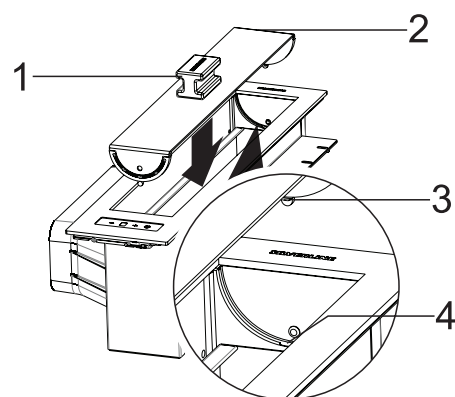

Fig. 36
17. ➤ ■ Attach the magnetize holder on the centre of the metal cap (Fig. 36).
■ Insert the metal cap on the appliance surface in parallel to the product (Fig. 36).
Carefully insert the connection tab on the metal cap inside the connection socket on the appliance (Fig. 36).